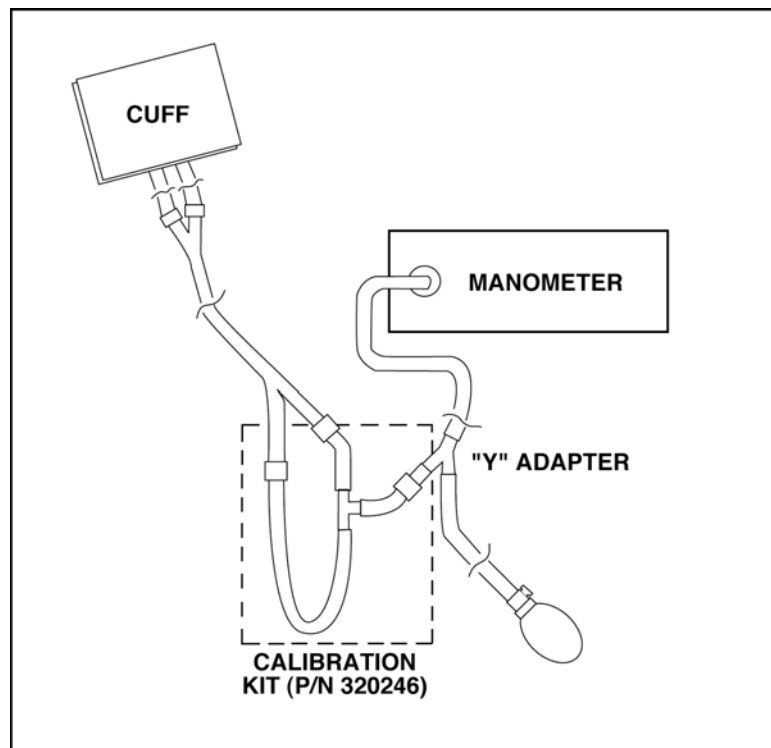

Figure 1-2 Leak Test Setup
7. Using the calibration kit (part number 320-246), an adult cuff and air hose, and a manometer, set up the equipment as shown in Figure 1-2.